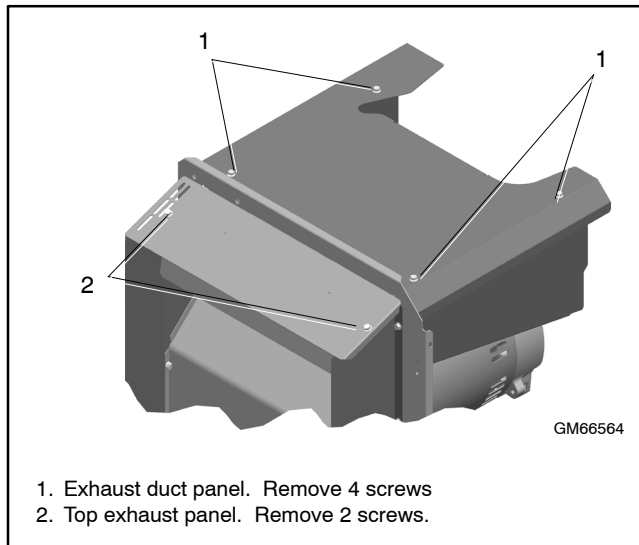

Figure 6-3 Heat Shield (original)
4. Original design, see Figure 6-3. Remove the exhaust duct panel over the muffler:
- a. Remove four screws. See Figure 6-3.